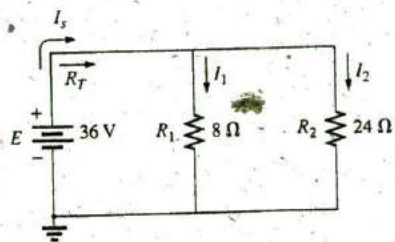

FIG. 6.79
- For the parallel network in Fig. 6.79: